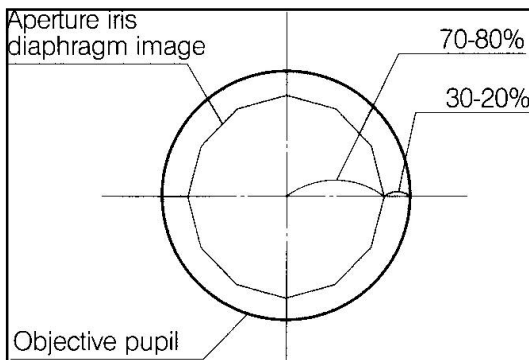
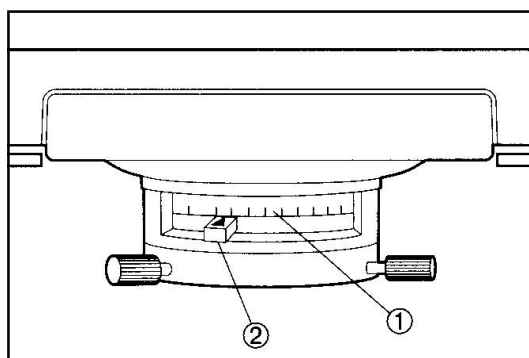

Fig. 3
Fig. 4
- The aperture iris diaphragm determines the numerical aperture of the illumination system. Matching the numerical aperture ① of the illumination system with that of the objective provides better image resolution and contrast, and also increases the depth of focus.
- Since the contrast of microscope specimens is ordinarily low, setting the condenser aperture iris diaphragm to between 70% and 80% of the NA of the objective in use is usually recommended. If necessary, adjust the ratio by removing the eyepieces and looking into the eyepiece sleeves while adjusting the aperture iris diaphragm knob ② until the image shown in Fig. 3 is seen. (Fig. 4)
Align the aperture iris diaphragm knob ② with the NA value ① on the scale. The scale value should correspond to the NA number engraved on the objective. Since the aperture iris diaphragm knob has a certain width, align the center line engraved on the knob with the scale indication. When using a 100X objective, turn the aperture iris diaphragm knob ② all the way to 0.9 on the scale. (Fig. 4)